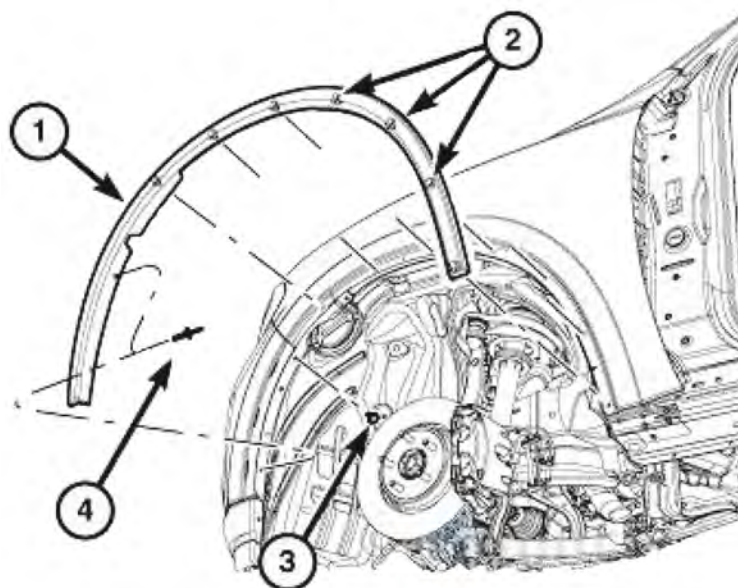

Figure 1
- A. Using a trim tool, carefully release the seven clips (2) attaching the flare (1) to the fender and remove the flare. (Fig. 1)
- B. Remove the fasteners (3) that secure the wheel liners to the fascia. (Fig. 1)